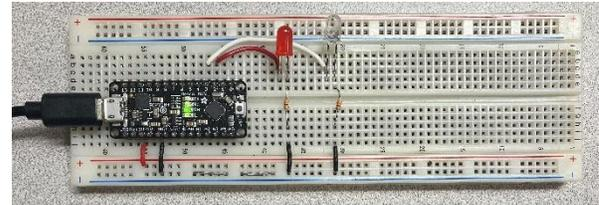

Figure 12: Final state
- ii. If they are connected as intended, check with a coin battery as shown in Figure 12 above, with the longer lead on the labeled, positive side.